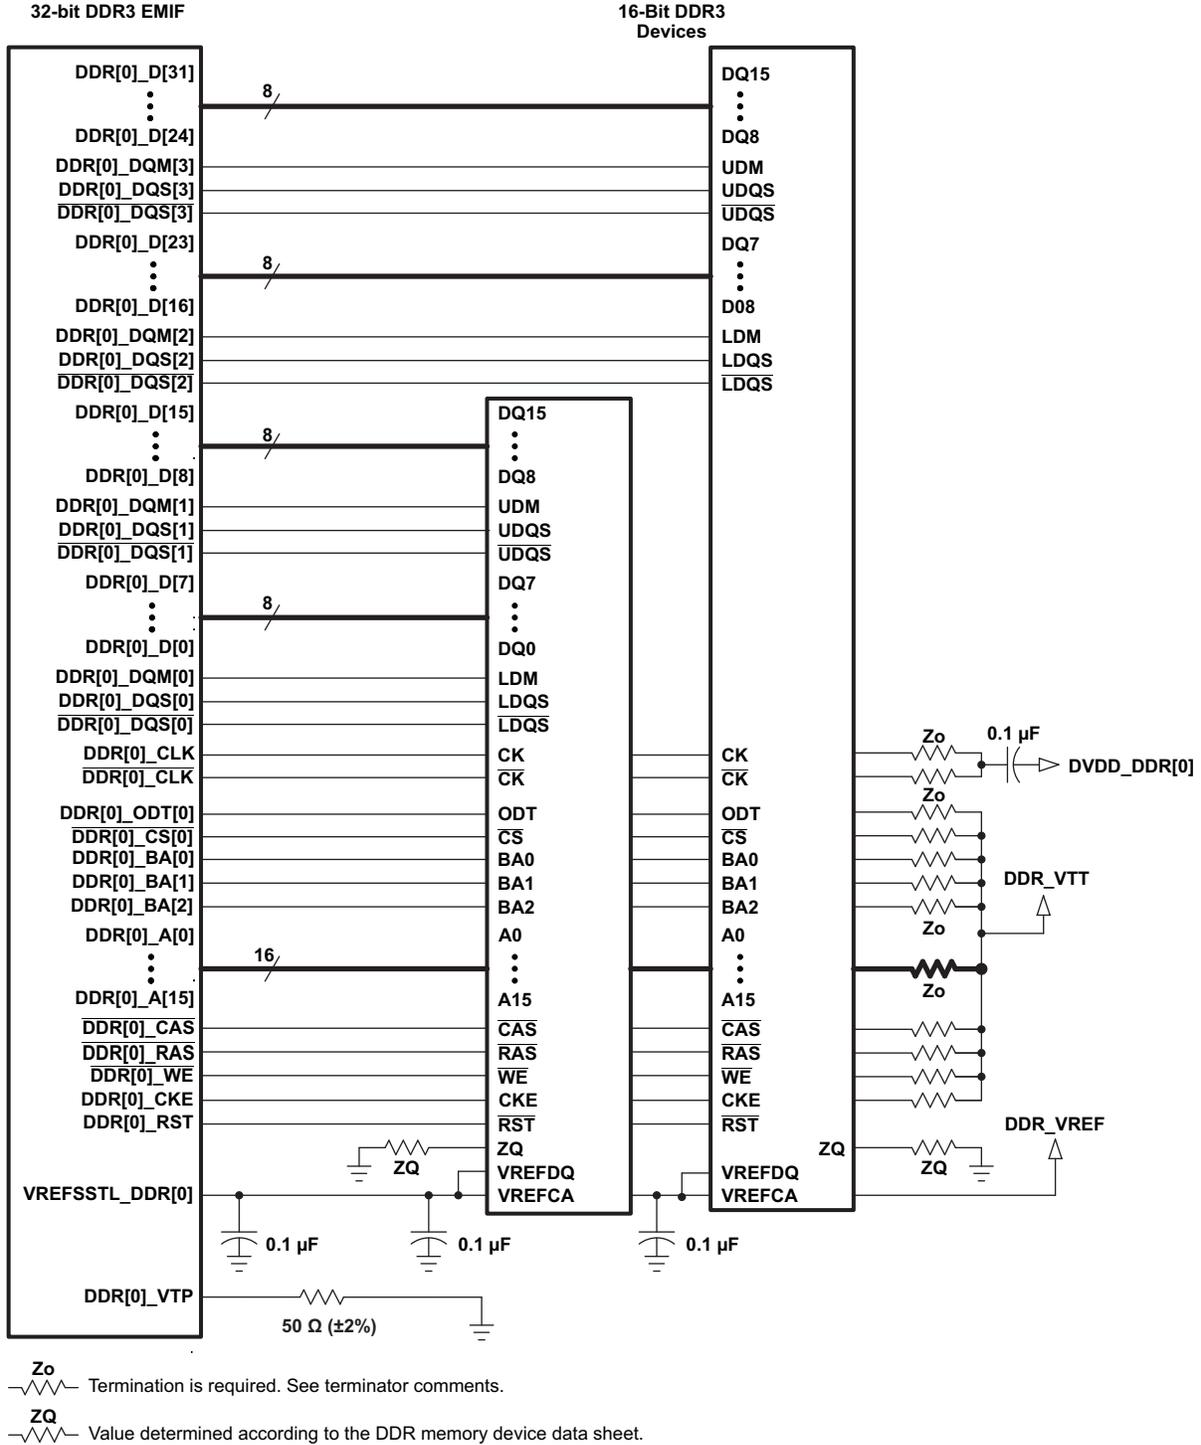
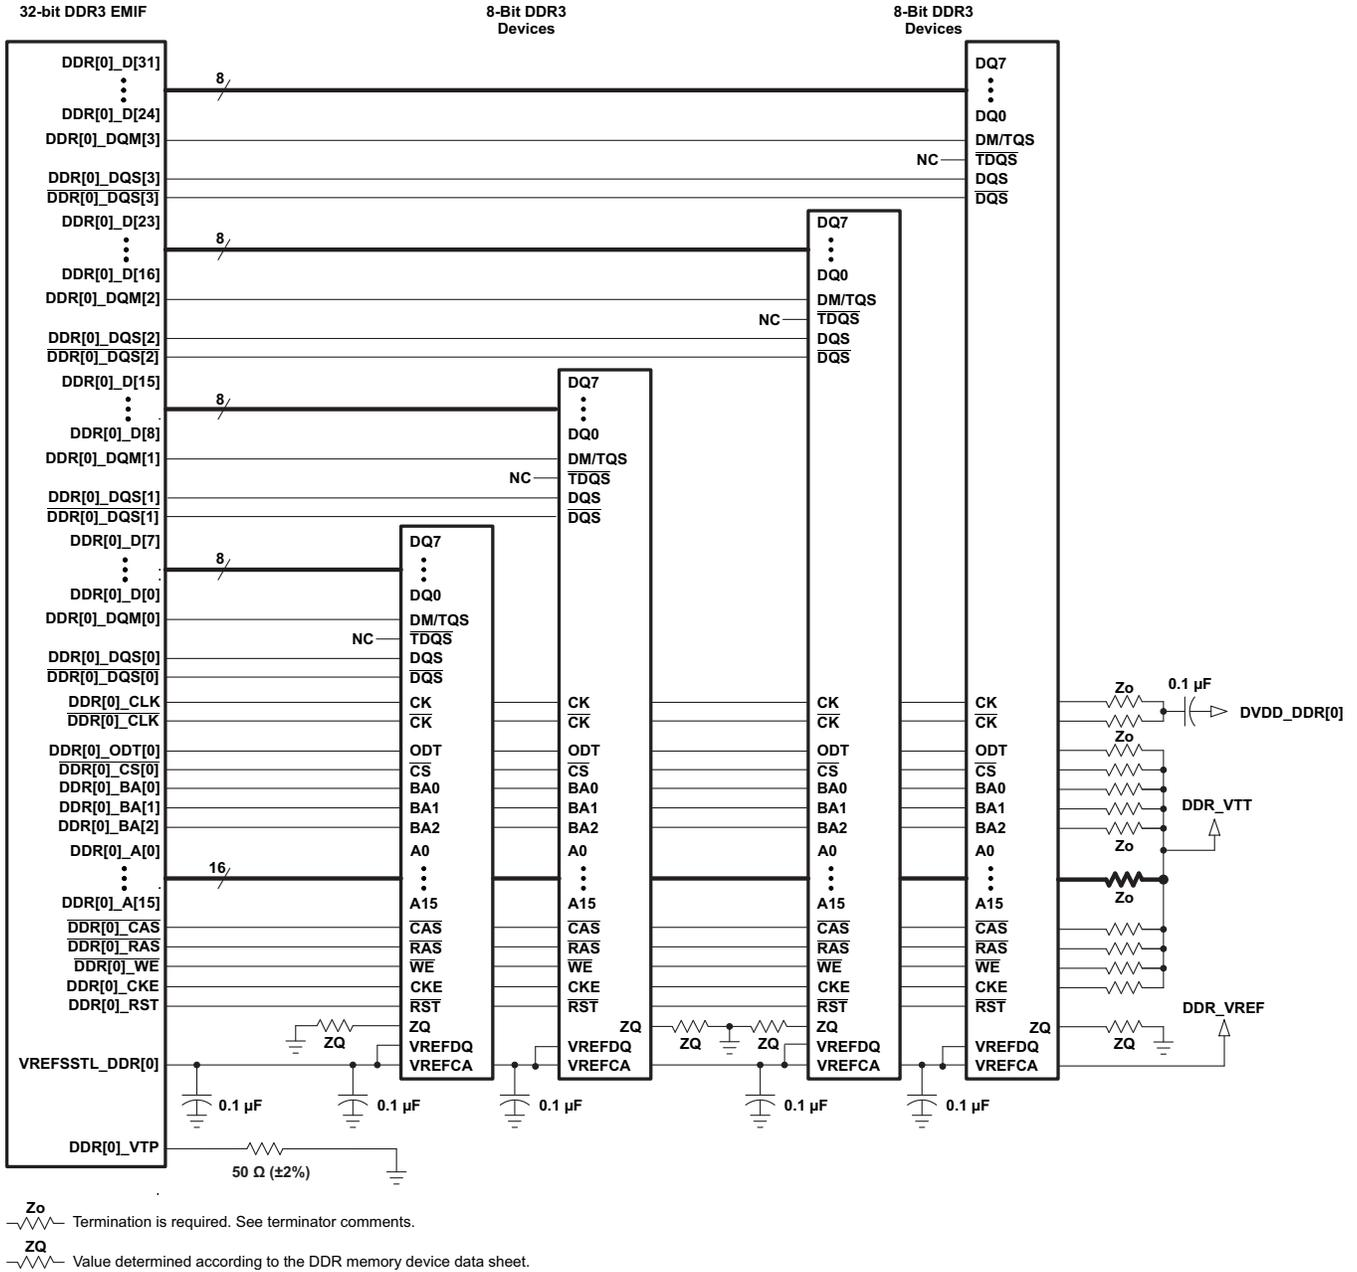

Figure 8-56. 32-Bit, One-Bank DDR3 Interface Schematic Using Two 16-Bit DDR3 Devices
Figure 8-57. 32-Bit, One-Bank DDR3 Interface Schematic Using Four 8-Bit DDR3 Devices
The DDR3 interface schematic varies, depending upon the width of the DDR3 devices used and the width of the bus used (16 or 32 bits). General connectivity is straightforward and very similar. 16-bit DDR devices look like two 8-bit devices. Figure 8-56 and Figure 8-57 show the schematic connections for 32-bit interfaces using x16 devices.
Note that the 16-bit wide interface schematic is practically identical to the 32-bit interface (see Figure 8-56 and Figure 8-57); only the high-word DDR memories are removed and the unused DQS inputs are tied off. The processor `DDR[0]_DQS[2]` and `DDR[0]_DQS[3]` pins should be pulled to the DDR supply via 1-k Ω resistors. Similarly, the `DDR[0]_DQS[2]` and `DDR[0]_DQS[3]` pins should be pulled to ground via 1-k Ω resistors.
(1) DDR3 speed grade depends on desired clock rate. Data rate is 2x the clock rate. For DDR3-800, the clock rate is 400 MHz.
(2) DDR3 devices with higher speed grades are supported; however, max clock rate will still be limited to 533 MHz as stated in Table 8-59 *Switching Characteristics Over Recommended Operating Conditions for DDR3 Memory Controller*.
(3) For valid DDR3 device configurations and device counts, see Section 8.13.3.3, Figure 8-56, and Figure 8-57.